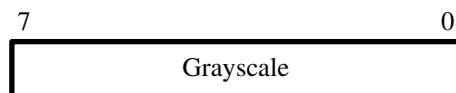

Figure 19. 8-bit Grayscale RGB Color Space.
- 8-Bit Grayscale — This is a special case of the RGB color space where all three colors have the same intensity and therefore produces shades of gray. Figure 19 shows the format of the 8-bit Grayscale data. This format is equivalent to YCrCb 4:0:0 color space. This mode is defined as 8 bits per color and one color plane.